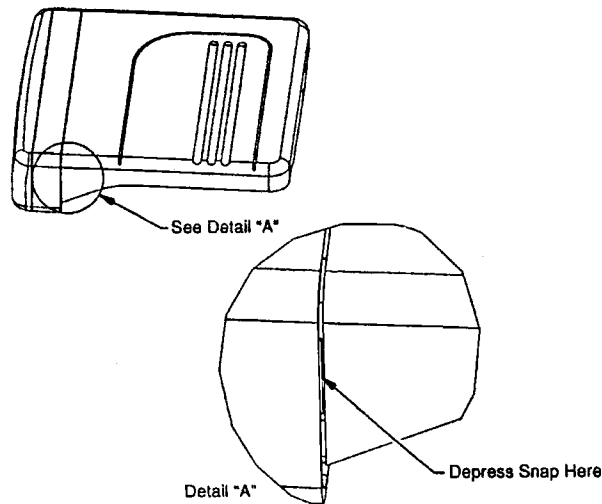

Figure 1
1. Insert a small blade screw driver or like instrument in the side groove at the interface between the control head and the transceiver. (see Figure 1). Press until the control head side releases and then repeat the operation on the opposite side.